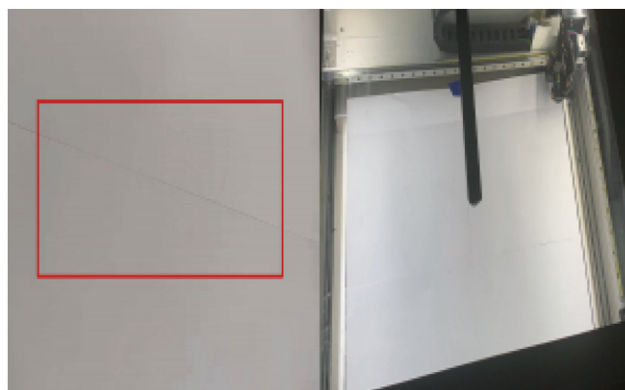

Figure 10
- 1) A4 paper, spread on the work table (as shown in Figure 10), wait for the button light to turn green automatically, and then click the button for processing.